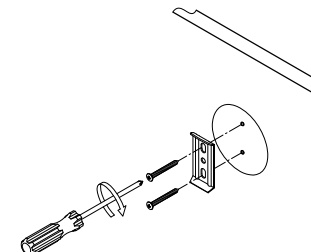

Fig. 5
- Step 4. Screw the mounting plate (with the lips facing out) to the wall with the mounting screws (Fig 5). Ensure the curved end of the mounting plate is on top and the flat end at bottom before screwing on.